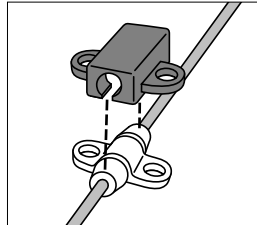

Fig. 11
- Snap rigid fastener onto catheter clamp (refer to Fig. 11)